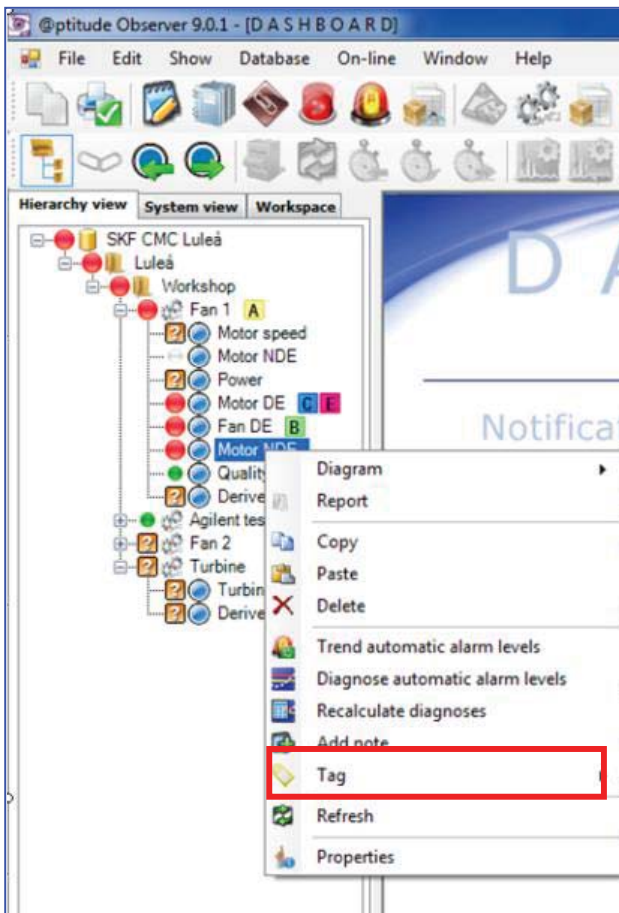

Fig. 3. Add a tag to a machine or a measurement point.
- 1 Right-click on the **Machine** or the **Measurement** point and select "Tag" in the drop down menu (→ fig. 3).